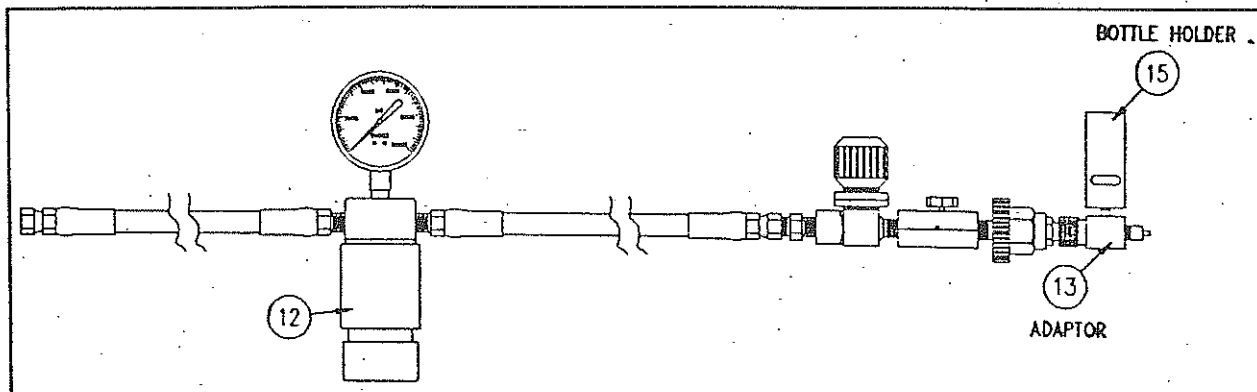

FIGURE 14-6 BOTTLE HOLDER INSTALLATION
5. Carefully attach the aluminum bottle holder (15) to the threaded hole on top of the brass adaptor (13) taking care that you do not cross thread the fittings (Figure 14-6).